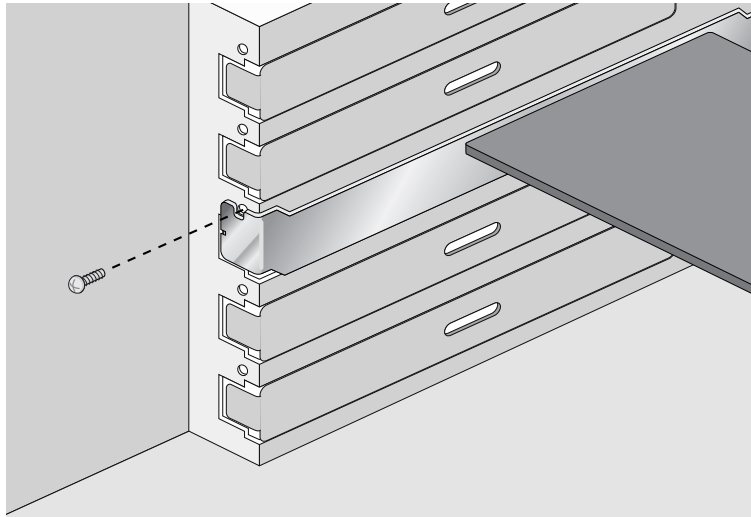

Figure 12. Securing the Adapter with a High-profile Bracket
6. Secure the network adapter card to the chassis with a Phillips-head screw (not provided). See Figure 12 on page 32.